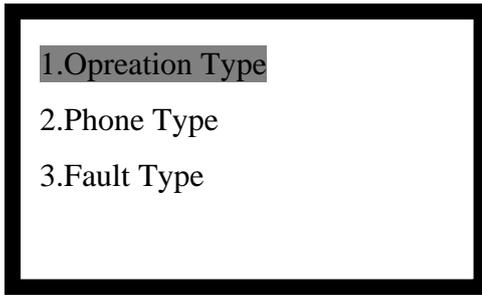

Fig. 4-5
- Select "2. By Type" to enter the screen of Fig.4-5 showing three sub-menus. The user can browse messages quickly according the message type. Operation type includes start-up, self-test, reset and registration. Telephone type includes call in, call out, lifting and hanging up a call. Telephone type also contains refusing a call, cancelling call in or call out. Both overall hang up and no answering belong to this type. Fault type consists of short circuit, off line fault, socket short or open, and fault recovery.